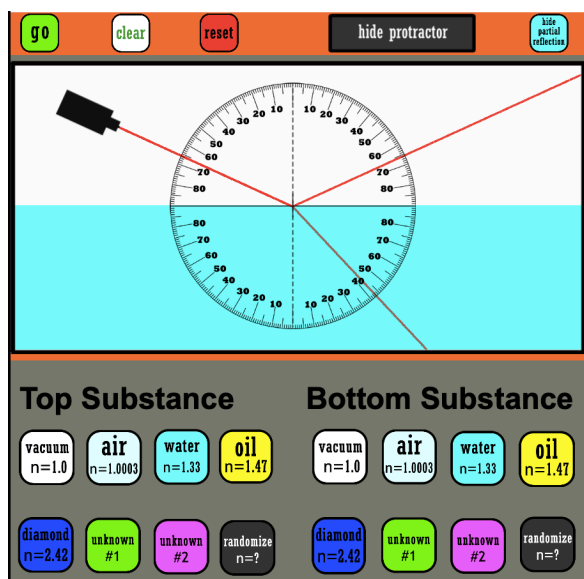

Figure 2: A view of the refraction simulation in action.
3. Click on “*Show protractor*” to enable the protractor view, and slide the protractor over so that it is centered on the point where the light hits the interface (Figure 2). Measure the angles i and r .